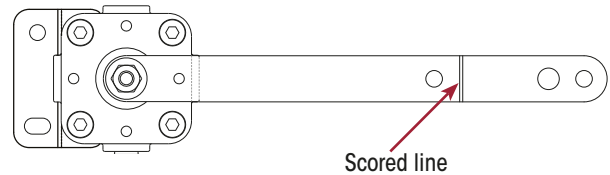

Figure 176: HCV Scored Arm Line
2. Determine the proper control-arm length. For example, if a short control arm is required, break or cut the control arm off at the scored line. Refer Figure 176.